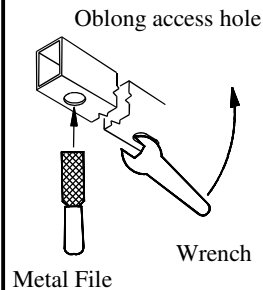

Figure 2
①	Qty. (2)	Carriage bolt 7/16-14 X 1.50 GR5	⑤	Qty. (1)	U-Bolt 3/8 GR5
②	Qty. (2)	Spacer	⑥	Qty. (2)	Conical washer 3/8
③	Qty. (2)	Conical washer 7/16	⑦	Qty. (2)	Hex nut 3/8
④	Qty. (2)	Hex nut 7/16	⑧	Qty. (2)	Pull wire 7/16
- Lower exhaust (2) rubber isolator on single exhaust, (4) rubber isolators on dual exhaust. Note: Spraying a lubricant or soapy water on the metal hanger rod and the rubber isolator helps removal.
- Check to see if spacer and carriage bolt will fit through access hole, if not modify hole to accept hardware, the illustration above (Figure 2) shows two ways of achieving this, the first is using a file, the second is by inserting a wrench or prying as shown. **Enlarge hole just enough to get hardware through.**